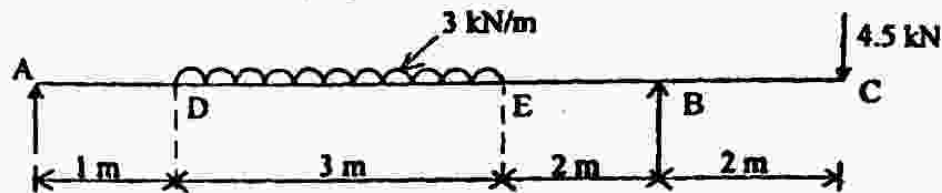

Fig. 5
8. Derive torsional formula with suitable assumption for circular cross section. (13)
9. Determine the following of an over hanging beam ABC supported at A and B and loaded as shown in fig. 5. (13)